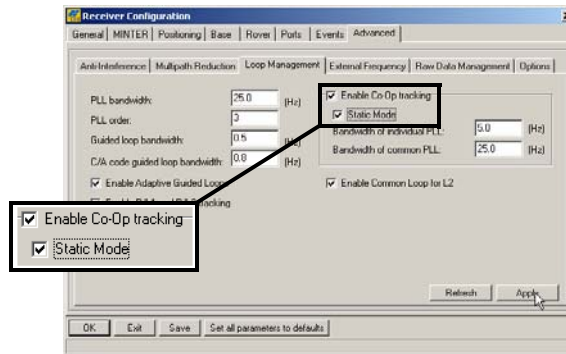

Figure 2-13. Advanced Configuration – Loop Management
5. Click the **Loop Management** tab, enable the following boxes, and click **Apply** (Figure 2-13).